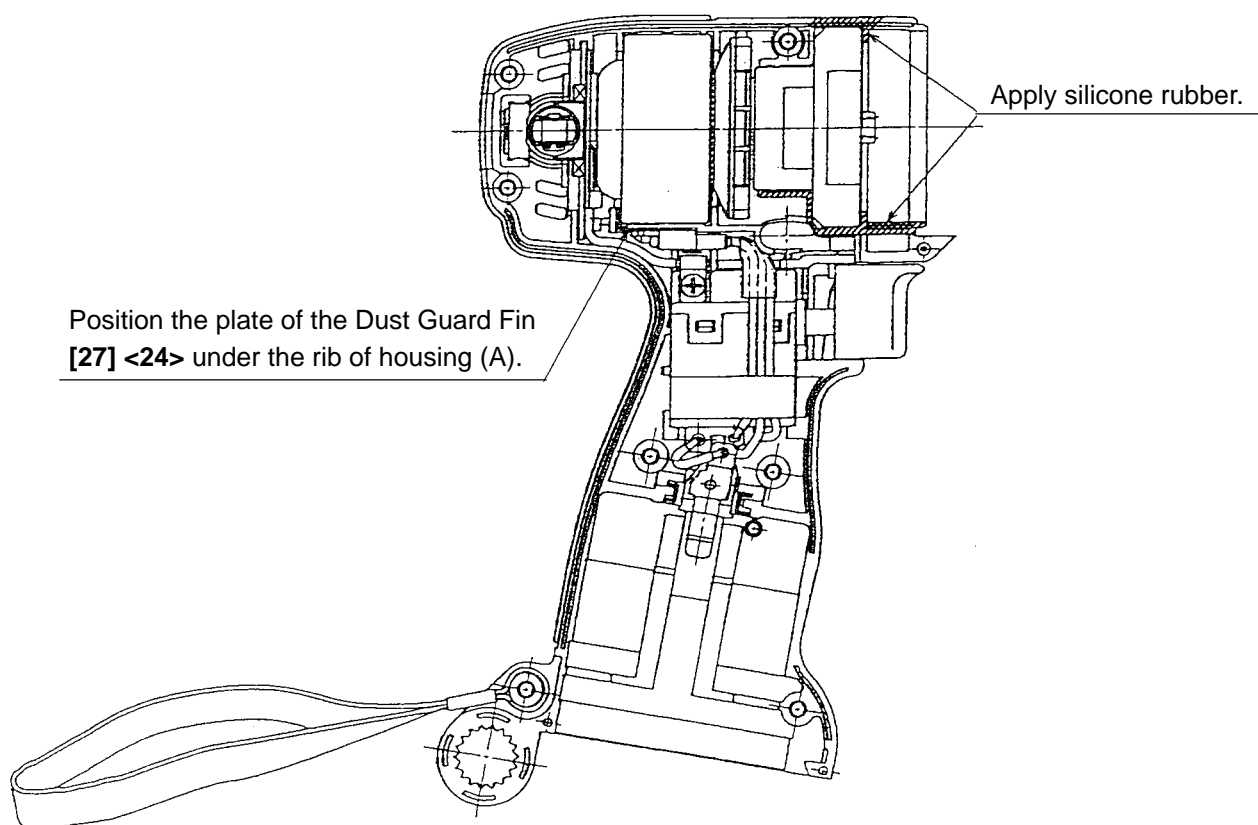

Fig. 16
- Position the plate of the Dust Guard Fin [27] <24> under the rib of Housing (A) (See Fig. 16).
(Note) The temperature of the FET may be high if the silicone grease is not applied. Make sure that the three internal wires from the FET are passed above the DC-Speed Control Switch [36] <33> (see Fig. 16).
(2) Mount the Strap [41] <38> to housing (A) and apply silicone rubber (ThreeBond 1211) to housing (A) as shown in Fig. 16. Mount housing (B) to housing (A) and secure them with seven Tapping Screws (W/Flange) D4 x 20 (Black) [31] <28>. Wipe the silicone rubber coming out of the housing with a cloth.